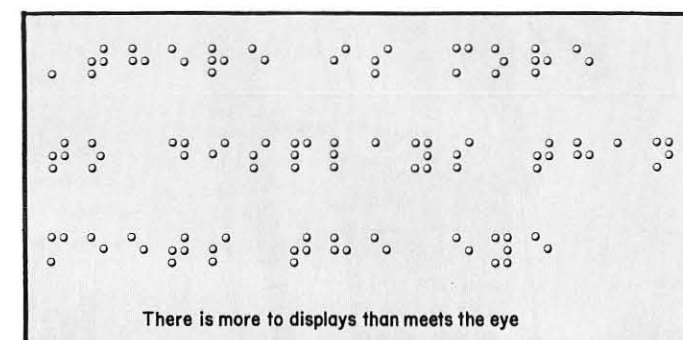

FIGURE 2: Message Displayed in Braille Form
If Braille, or its equivalent, were to be displayed on a cathode ray tube the character generator (CG) required would be a very simple device. It would consist of the small amount of electronics required to display, in dot form, the six input bits (a six bit to six bit code converter may be required). An example of a message displayed in Braille form is shown in Figure 2.